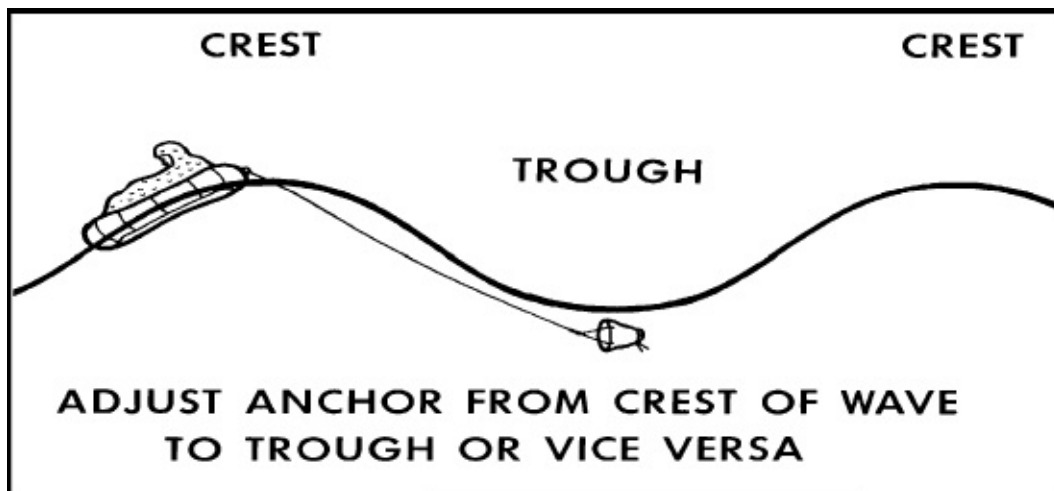

Figure 2-11. Sea anchor deployment
(1) Deploy sea anchor (**Figure 2-11**). Sea anchor may be adjusted to make use of existing currents.
(2) Sit low in the raft.
(3) Deflate the raft slightly so it rides lower in the water.